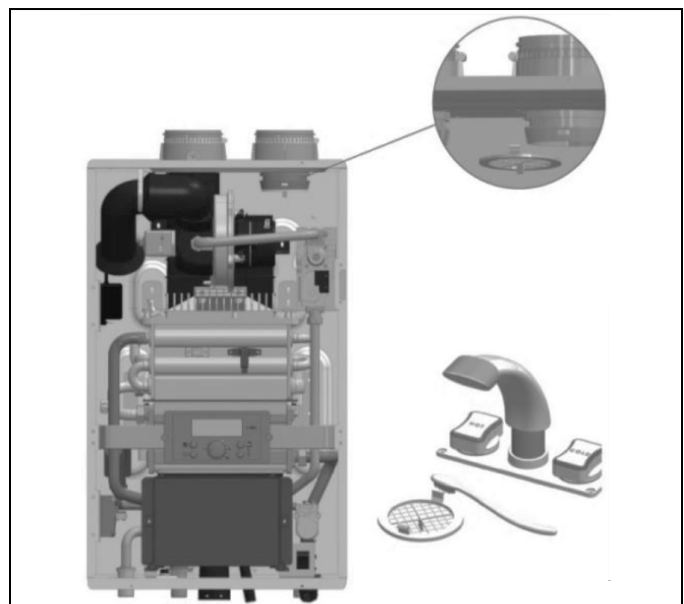

Figure 58 - Cleaning the Air Intake Filter
6. Remove the filter from the plastic assembly and clean it with a toothbrush and clean running water. See Figure 58.